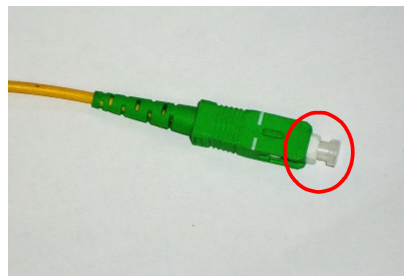

Figure 3-9 SC/APC Optic Connector Dust Cap
- When optic connectors are not in use, the port should be covered with a protective dust cap. (Figure 3-9)